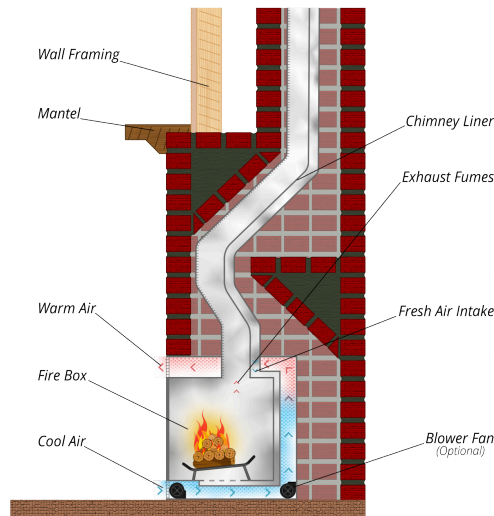

Figure 16 Direct vent collinear top exit, vertical termination. (adapted from MFI, n.d.). Used with permission.
- Direct vent collinear top exit, vertical termination (Figure 16)